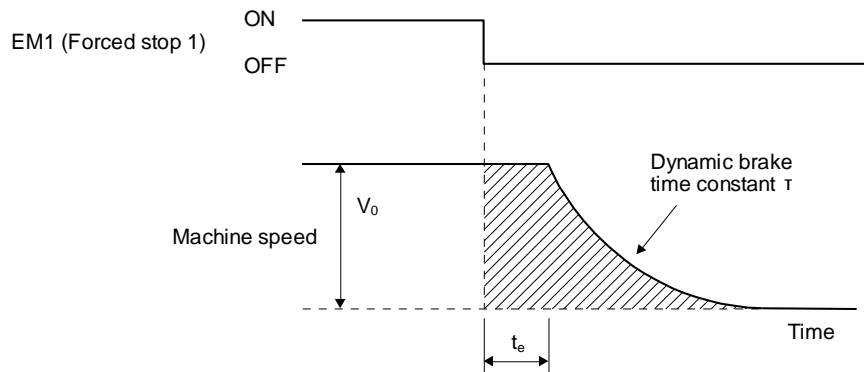

Fig. 10.3 Dynamic lock operation diagram
Fig. 10.3 shows the pattern in which the servo motor comes to a stop when the dynamic lock is operated. Use equation 10.2 to calculate an approximate coasting distance to a stop. The dynamic lock time constant τ varies with the servo motor and machine operation speeds. (Refer to (2) of this section.)